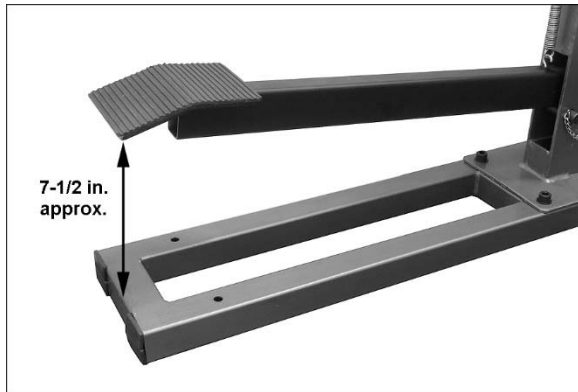

Figure 5-6
- Use any available items to block up foot pedal to approximately 7-1/2 inches from top of base. See Figure 5-6. (If stand is secured directly to floor, measurement will be from floor.)